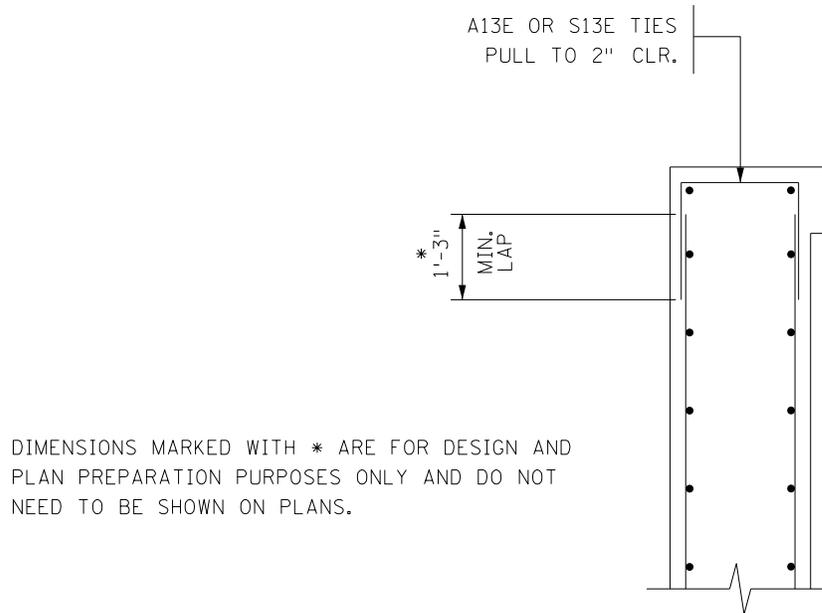

Figure 3
5. For wingwalls that do not have a barrier mounted on top, use a U-shaped tie at the top of the wall. (See Figure 3.) Ties are not needed at the ends of wingwalls or at the bottoms of wingwalls that cantilever past the end of a footing. Additionally, ties are not necessary on the tops of wingwalls with a barrier mounted on top, as long as the barrier dowel is adequately lapped to the wingwall vertical bars. The bar mark for the ties should correspond to the concrete pour that is associated with them: if the concrete around them is abutment concrete, the bars should be A bars; if the concrete is superstructure concrete, they should be S bars.